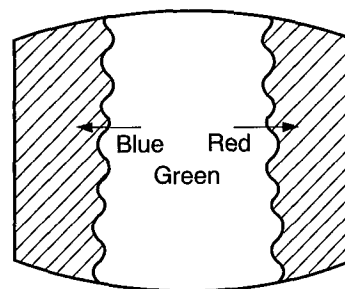

Fig 3
- 4 Move the deflection yoke backward, and adjust with the purity control so that green is in the center and red and blue are at the sides evenly (Fig 3)